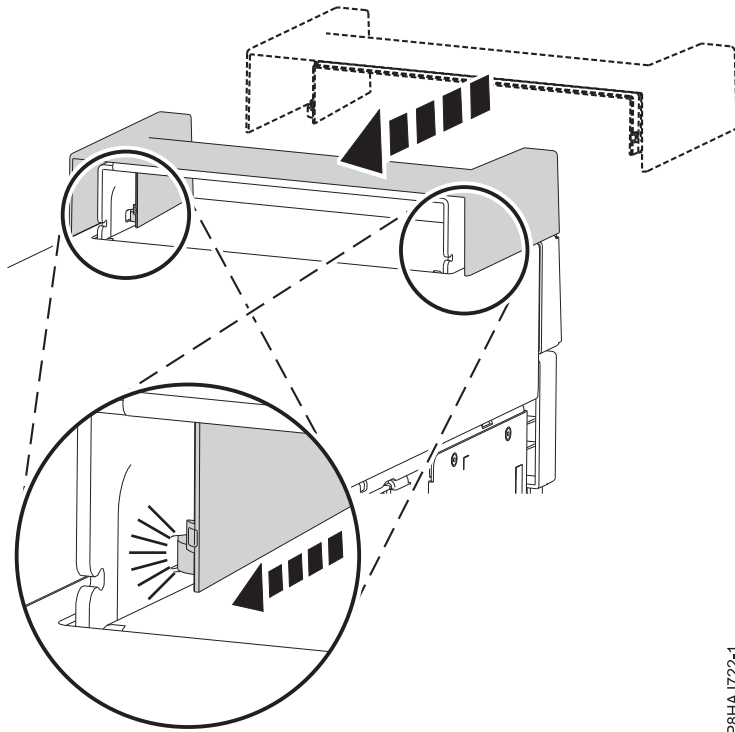

Figure 24. Securing the handle cover in an 8286-41A stand-alone system
1. Secure the handle cover to the internal RDX docking station (FC EUA3) by sliding it toward the rear of the system. See Figure 24.